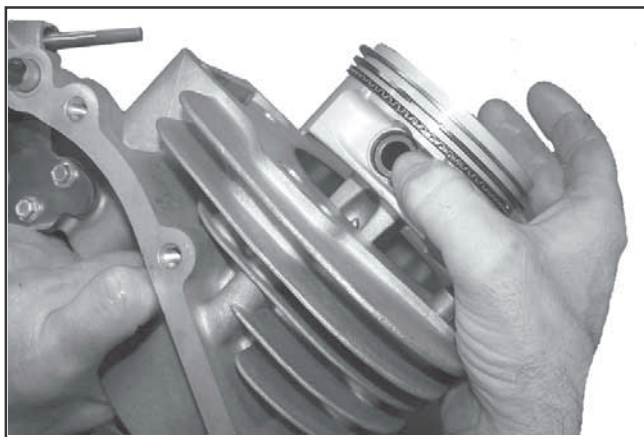

Figure 8-58. Removing Piston/Connecting Rod Assemblies.
2. Carefully remove the connecting rod and piston assembly from the cylinder bore. See Figure 8-58.